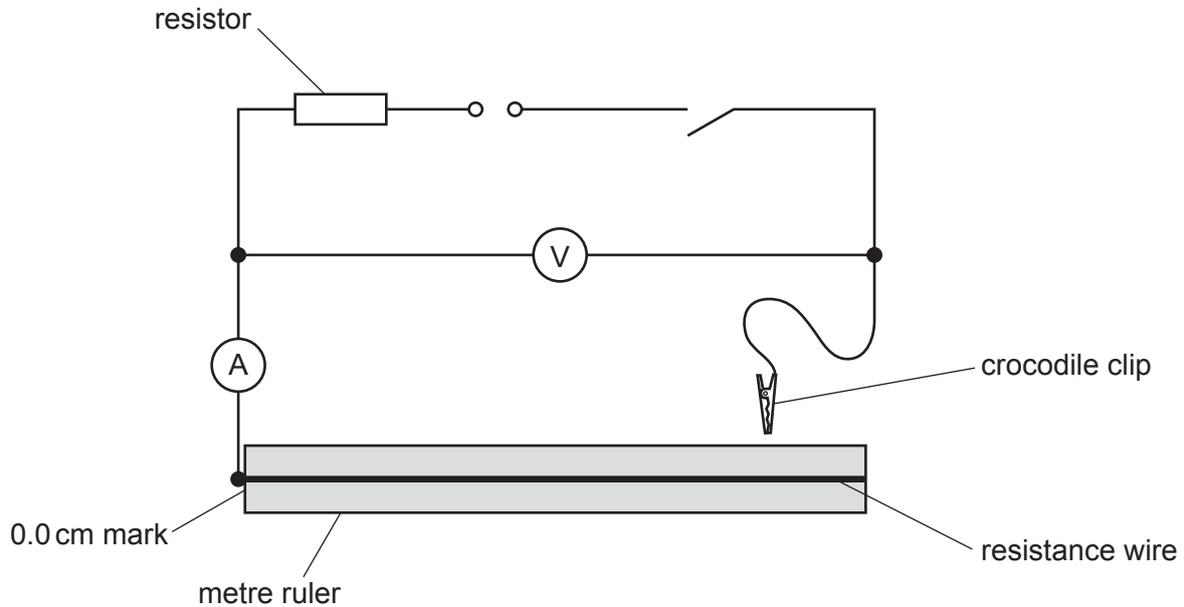

Fig. 3.1
- (vii) Sufficient connecting leads to set up the circuit shown in Fig. 3.1.
2. The circuit is to be set up for candidates as shown in Fig. 3.1, with the crocodile clip not connected to the resistance wire.
Ensure that the circuit is connected as shown in Fig. 3.1. Check that the circuit is working and disconnect the crocodile clip from the resistance wire.